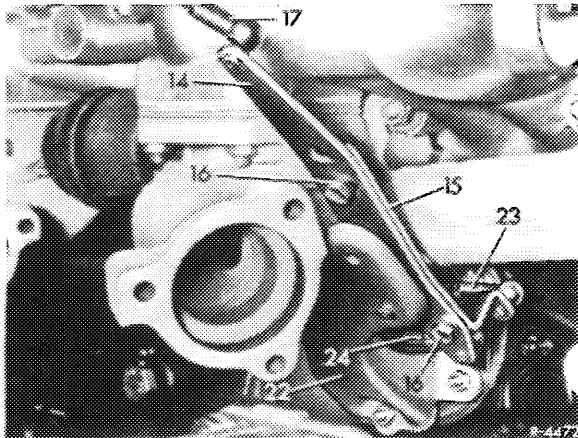

Fig. 07-4/6
13 Check full load stop with the engine shut down. To do this, depress accelerator inside the vehicle. The accelerator must then contact the full load stop and the throttle valve lever of stage I must contact the carburetor body. If necessary, adjust regulating shaft (6) after having loosened hex. head bolt (7) (Fig. 07-4/7).